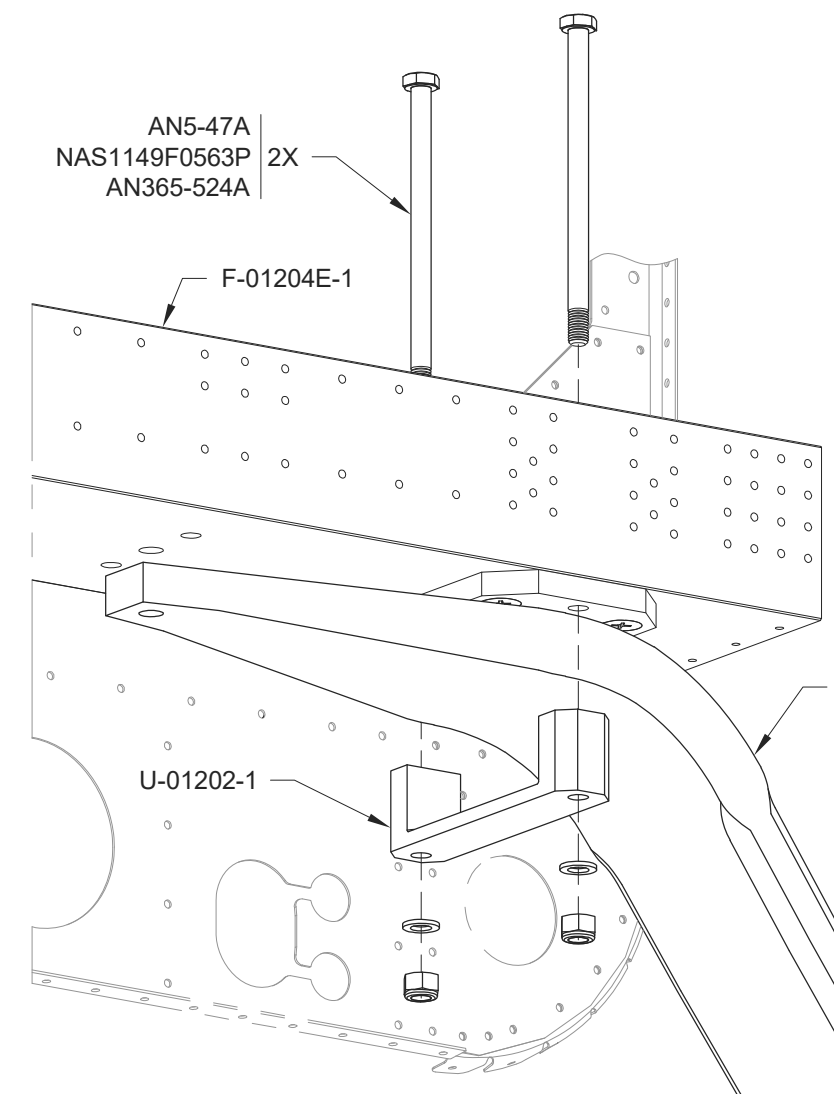

FIGURE 2: GEAR LEG ATTACH OUTBOARD
Step 4: Maneuver the U-01220-R-2 (or U-1220-R) and U-01202-1 outboard bracket into position at the same time. See Figure 2. Install the washers and nuts but don't tighten them down yet.